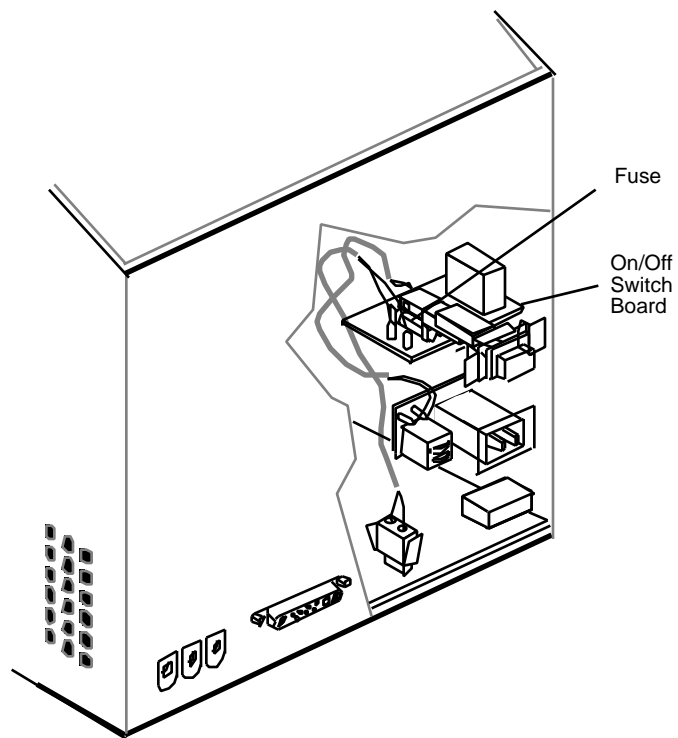

FIGURE 17
3. Remove the fuse from the on/off switch board (**Figure 17**) . Gently pry up one end of the fuse with your fingers or a flat-blade screwdriver, and lift the fuse out of the holder.
1. Using your fingers, carefully snap the new fuse into the fuse holder (**Figure 17**) .